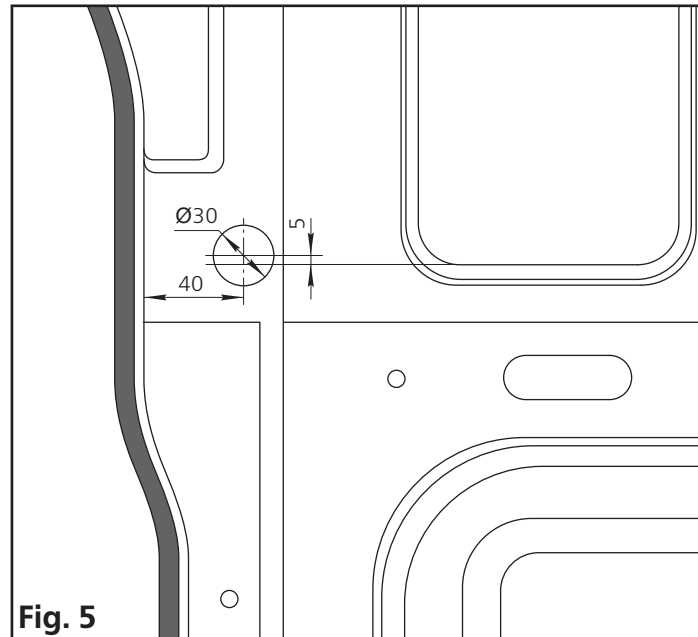

Fig. 5
1. Mark the center of the hole with a marker (Fig. 5). Drill a hole $\varnothing 30$ mm.